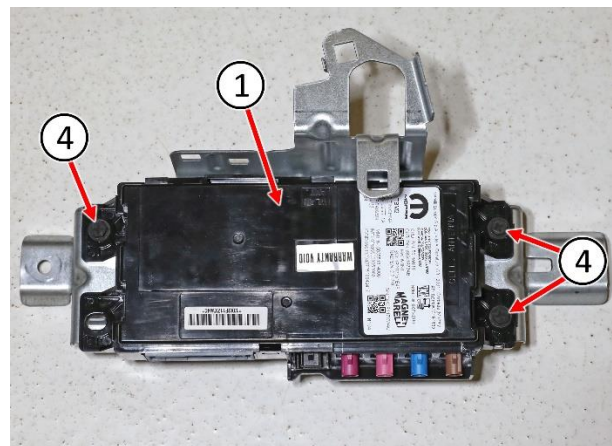

Figure 20 – Telematics Module
29. Remove the three screws (4) then remove the telematics module (1) from the module bracket (Figure 20).
31. Position the NEW telematics module (1) on the bracket then install the three screws (4) and tighten securely (Figure 20).